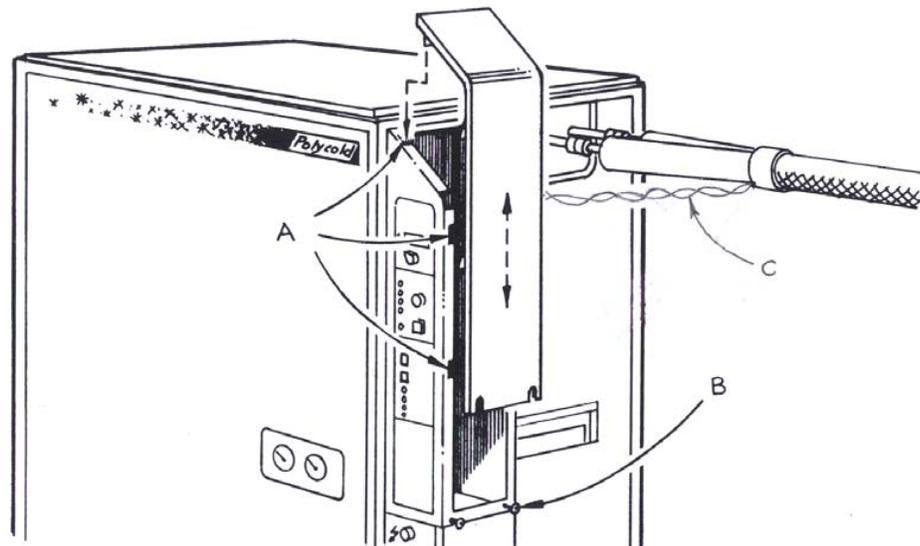
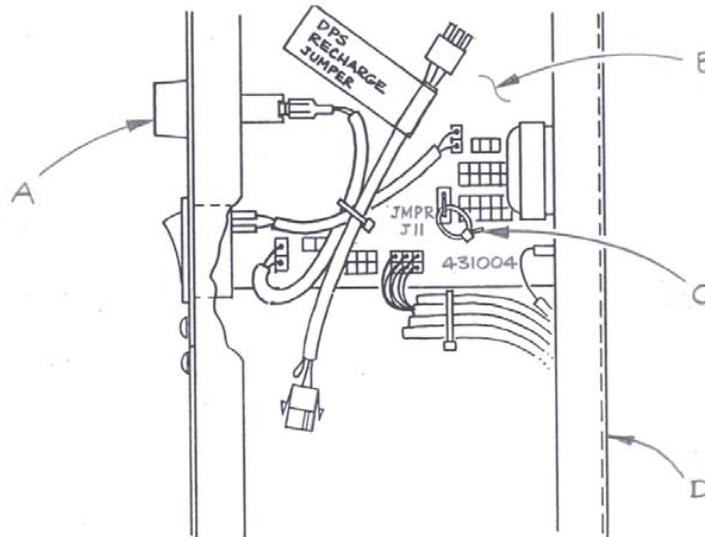

Figure 3-30: Low Voltage Box Panel Removal
Figure 3-31: Jumper J11 location
1. Loosen the two lower screws on the side of the low voltage box. Slide the panel straight up to remove it. (See Figure 3-30 Low voltage box panel removal and Figure 3-31 Jumper J11 Location.)